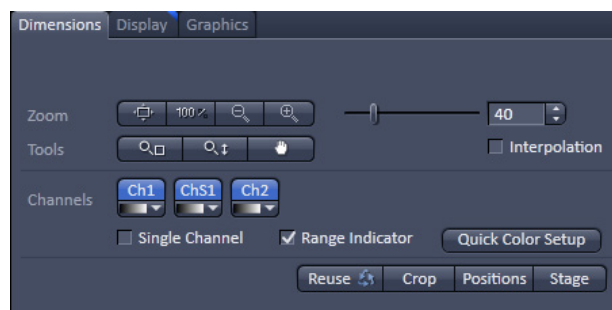

Fig. 22 View Dimensions Control Block
- In the **View – Dimensions** View Option Control Block, activate the **Range indicator** check box (Fig. 22).